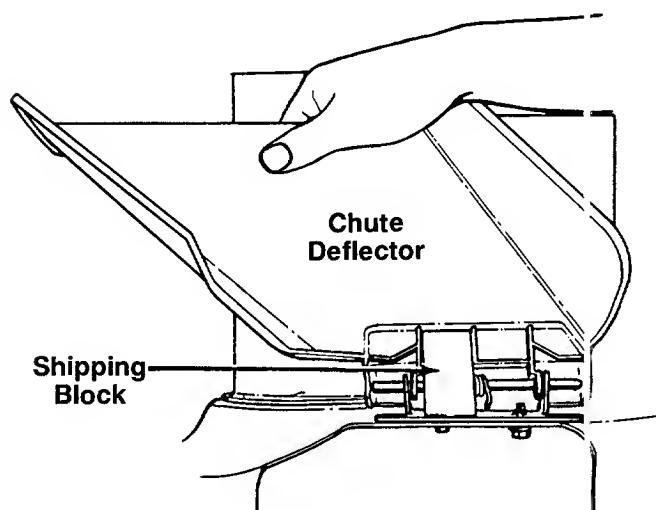

FIGURE 1.
5. The chute deflector on your mower is held in an upright position by a block for shipping purposes only. This shipping block must be removed and discarded before the mower is put into operation. See figure 1.